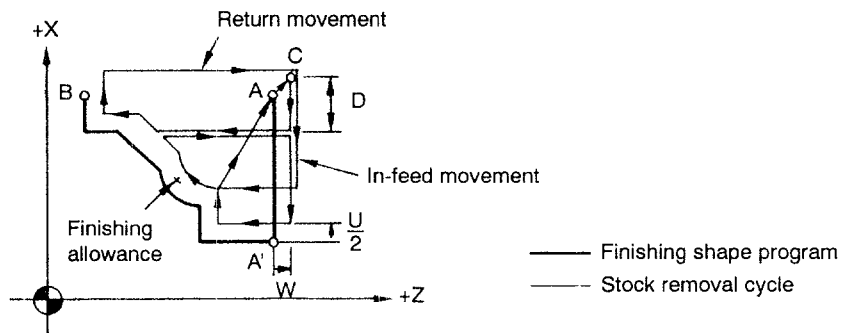

Fig. 4.19 Skipping the Rough Finishing Cycle
- If “I = 0, K = 0 (or no designation)”, the cycle finishes by skipping the rough finishing cycle as shown in Fig. 4.19.